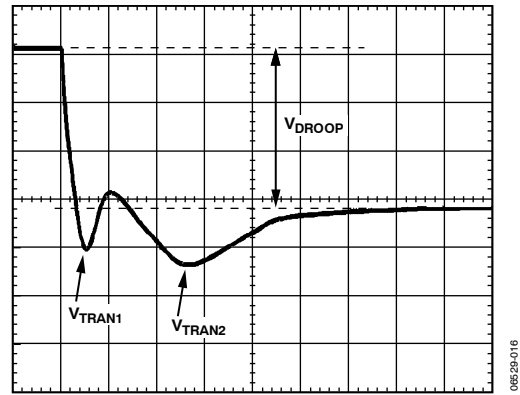
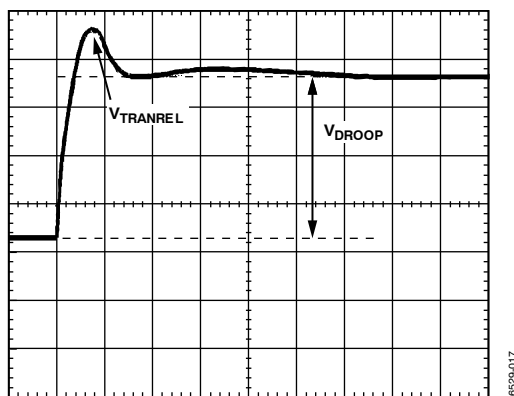

Figure 15. Transient Setting Waveform
Figure 16. Transient Setting Waveform
17. With the dynamic load still set at the maximum step size, expand the scope time scale to see 2 μ s/div to 5 μ s/div. The waveform may have two overshoots and one minor undershoot (see Figure 15). Here, V_{DROOP} is the final desired value.
19. For load release (see Figure 16), if $V_{TRANREL}$ is larger than V_{TRAN1} (see Figure 15), there is not enough output capacitance. Either more capacitance is needed or the inductor values need to be smaller. If inductors are changed, start the design again using the spreadsheet and this tuning procedure.